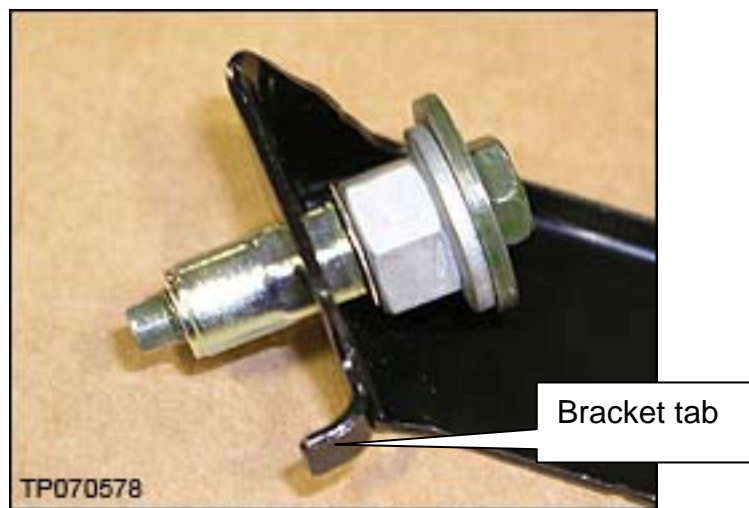

Figure 6
- c. Install / push the nut and bolt assembly into the bracket as shown in Figure 6.